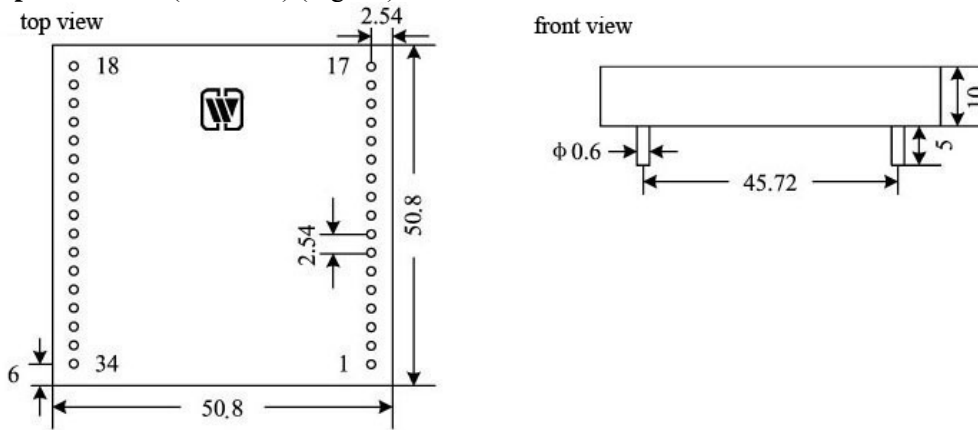

Fig. 12 Outside view and dimensions of package
10. Package specifications (unit: mm) (Fig. 12)